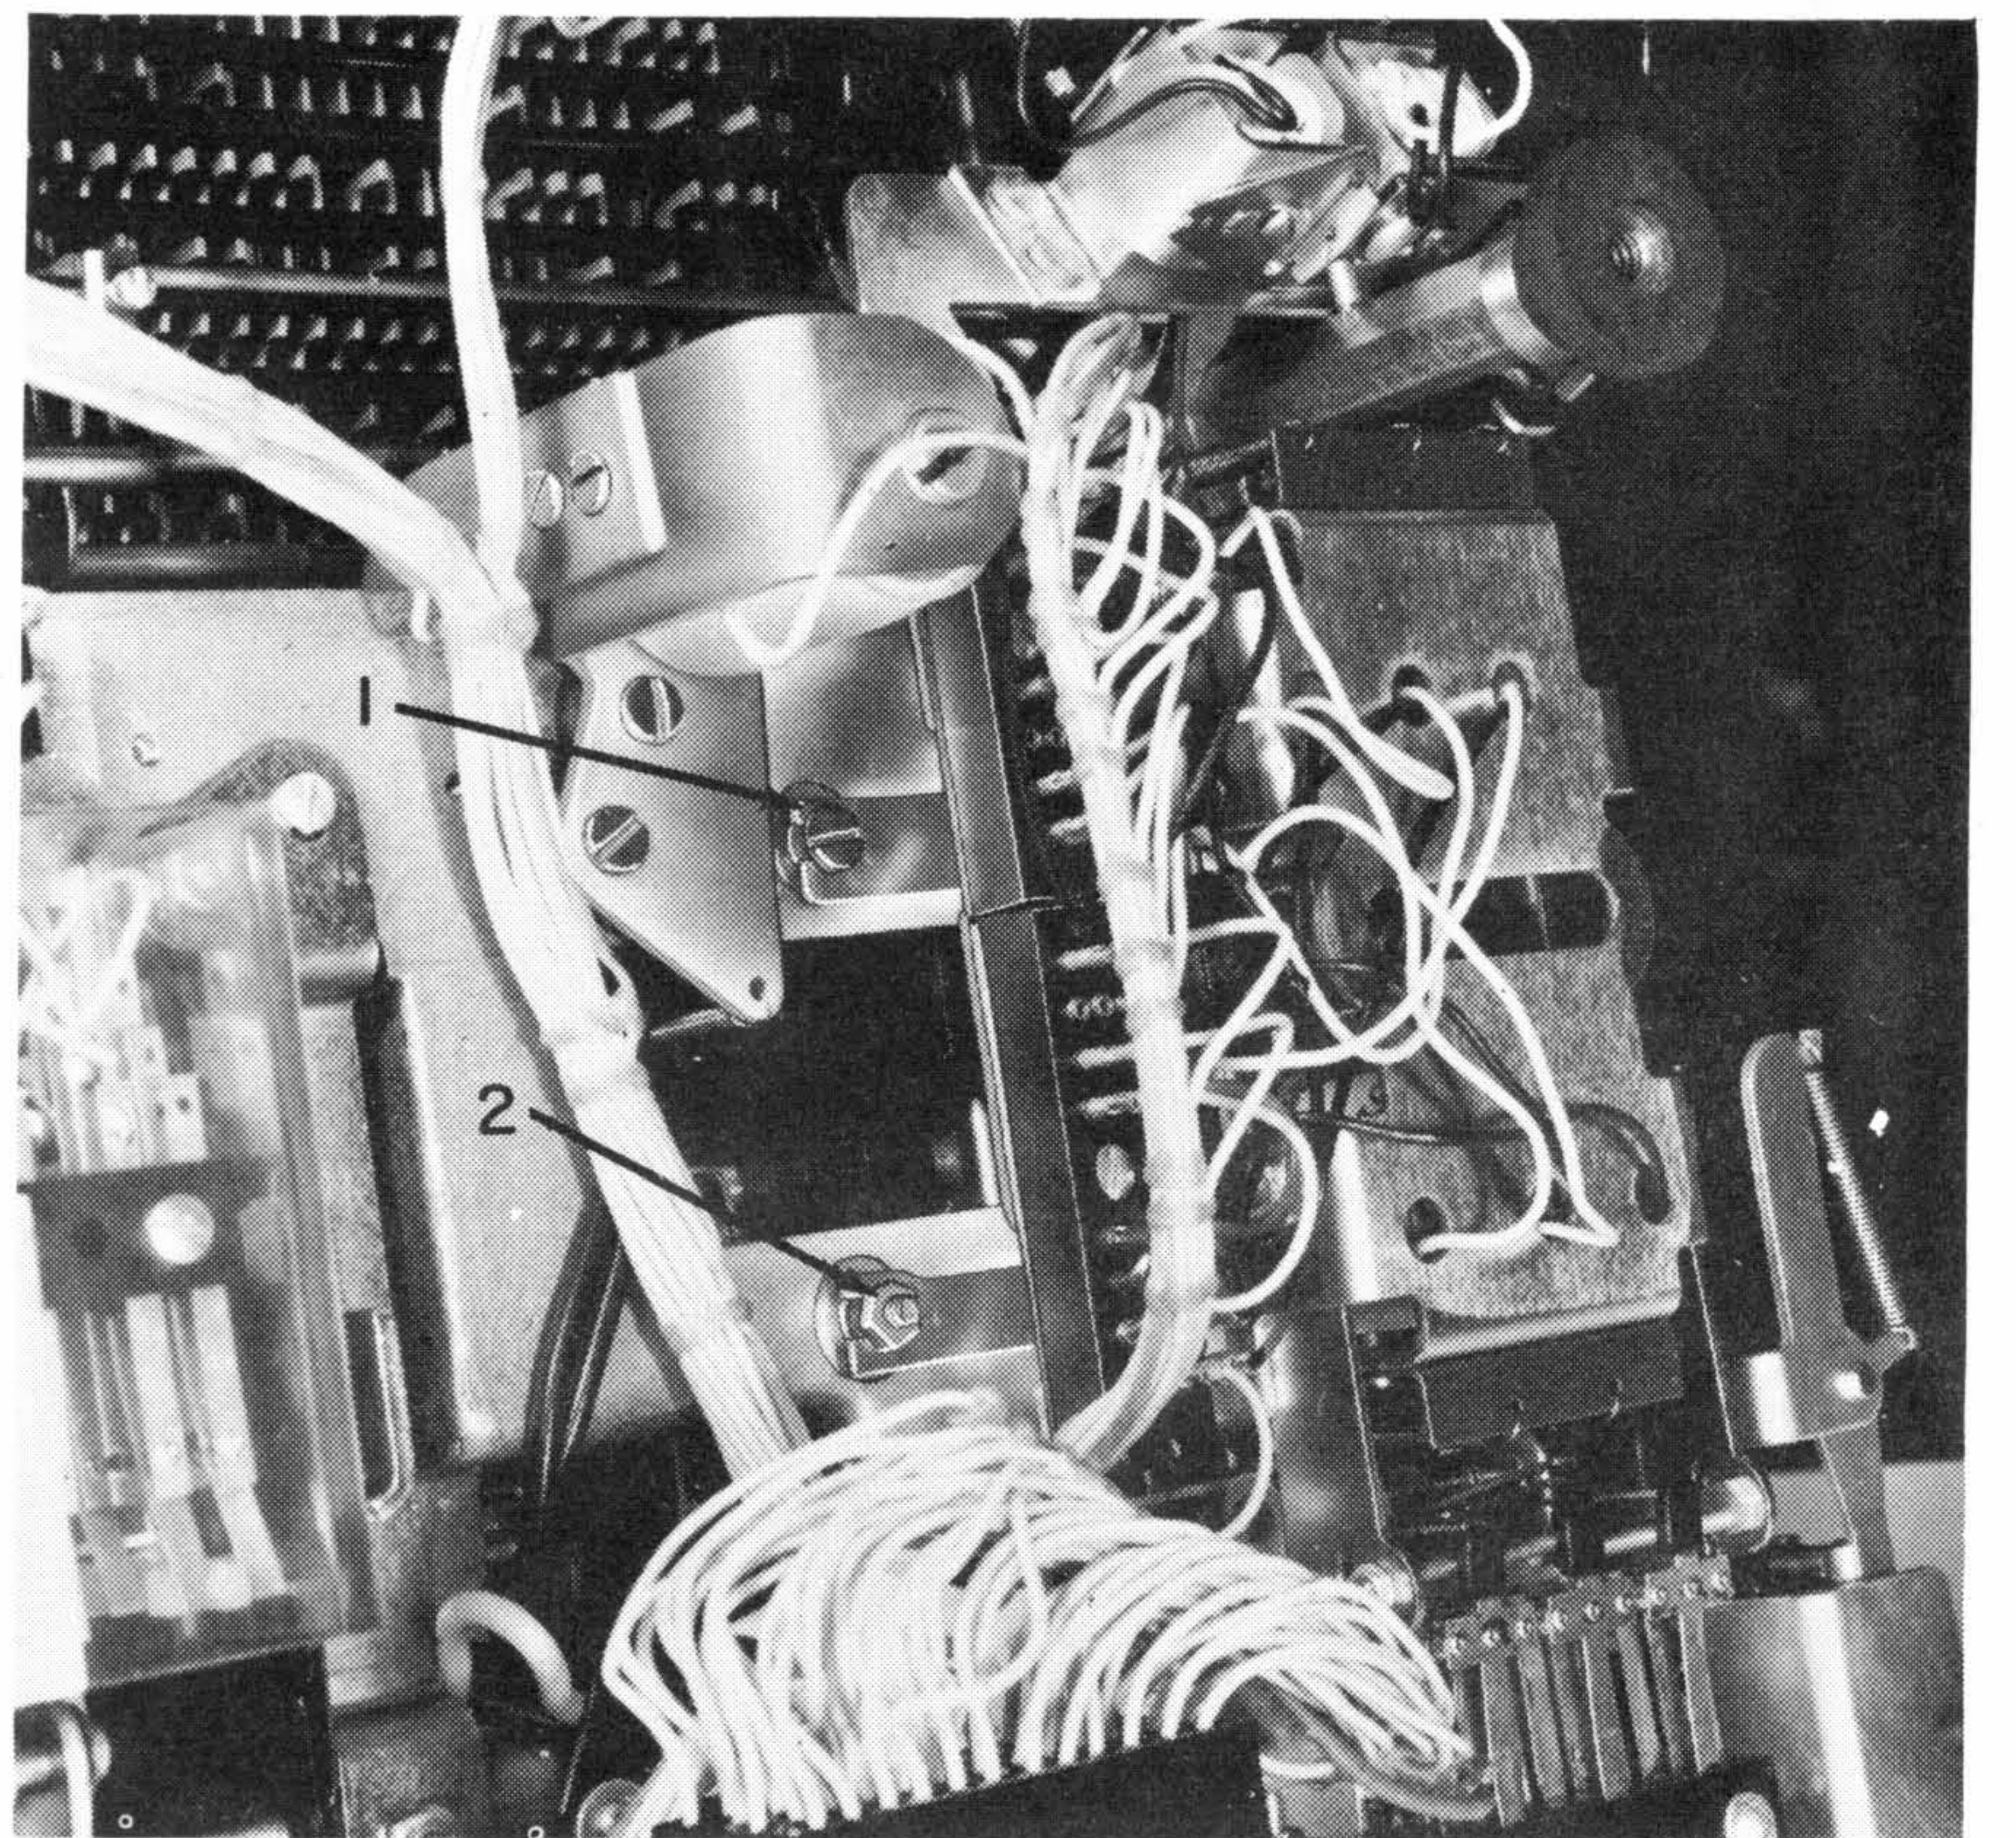

Figure 46. Operational Magnet Assembly Removal
6. Remove the mounting screw (#1, Figure 46).
7. Remove the nut (#2, Figure 46) and carefully remove the magnet assembly.